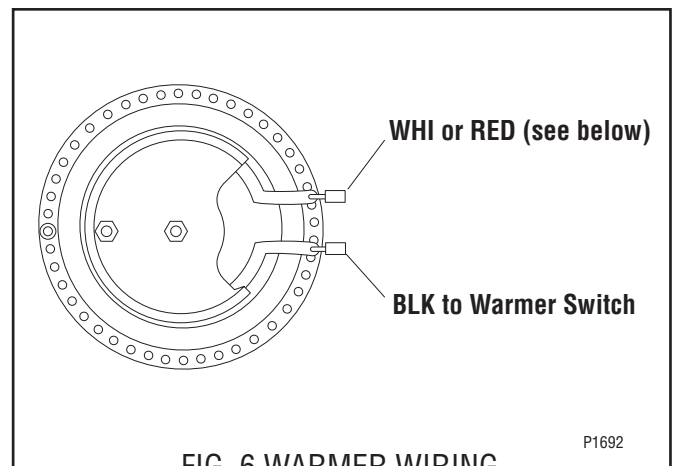

FIG. 6 WARMER WIRING
- Refer to FIG. 6 when reconnecting the wires.